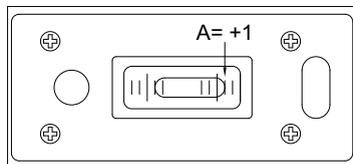

Fig.2
- a) After the bubble stops oscillating, read A on the scale (Fig.2).